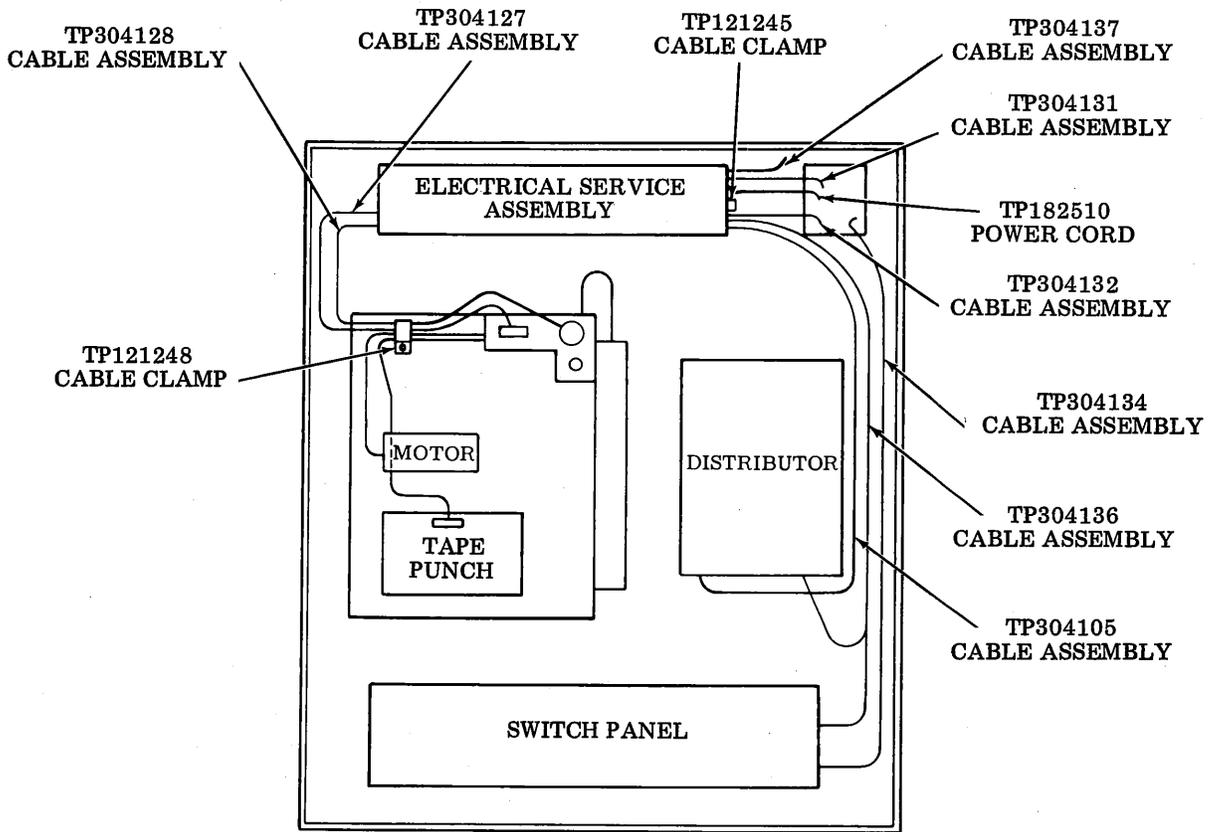

Figure 17 - Upper Compartment Components and Cable Routing (Top View)
4.04 The cables should be dressed and tied to present a neat appearance and should follow the general routing as shown in Figures 17 and 18.